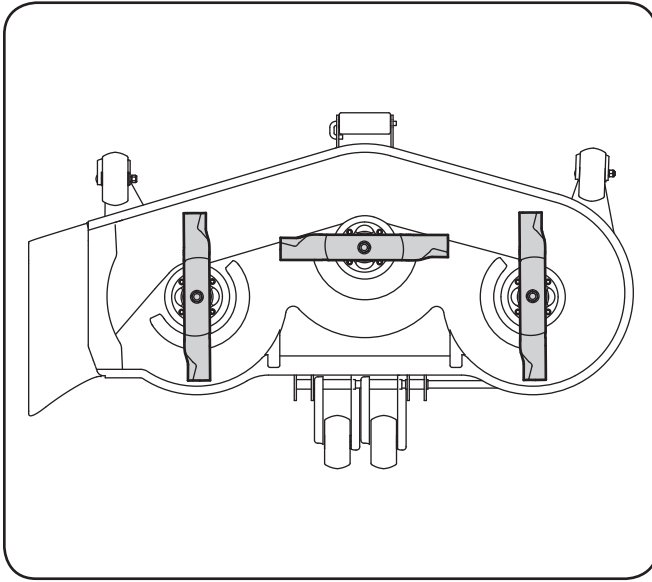

Figure 21
- Carefully turn the outer blades of the mower deck so that the ends of the blades point to the front and rear of the deck. See Figure 21.